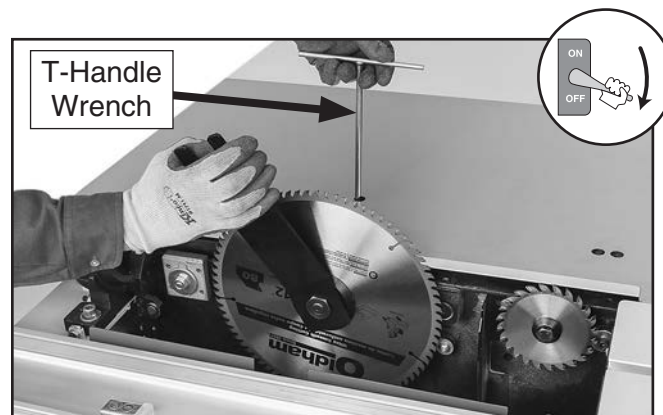

Figure 83. Loosening main blade arbor nut.
5. Insert T-handle wrench through table top hole (see **Figure 83**) and into one of the holes in main blade pulley under table. This will keep blade arbor from rotating during next step.